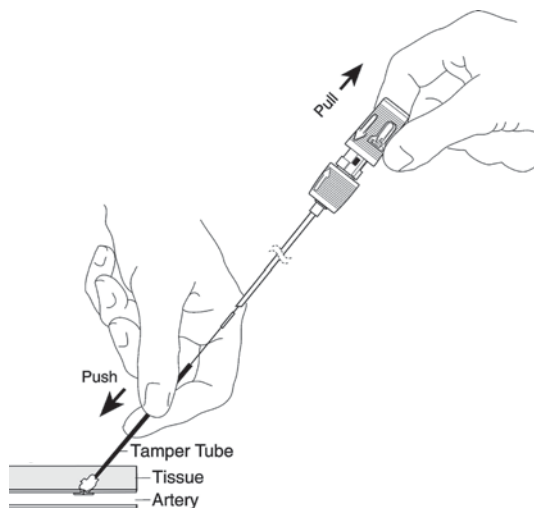

Fig. 15
- Continue to maintain tension on the suture while continuing to advance the knot and collagen with the tamper tube, following the puncture tract angle (Figure 15). A complete seal is indicated when resistance is felt and hemostasis is achieved. As a guide, in most cases a black compaction marker will be revealed. The essential indicators for a seal are resistance, hemostasis, and in most cases a black compaction marker is revealed.